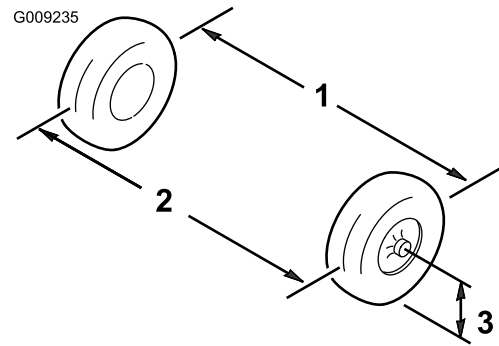

Figure 44
2. Measure the distance between both of the front tires at the axle height at both the front and rear of the front tires (Figure 44).